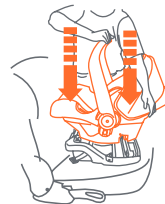

Fig. 44-1
3. Place the Car Seat onto the Base and push down until the Car Seat locks securely to the Base and you hear a click (Fig. 44-1).